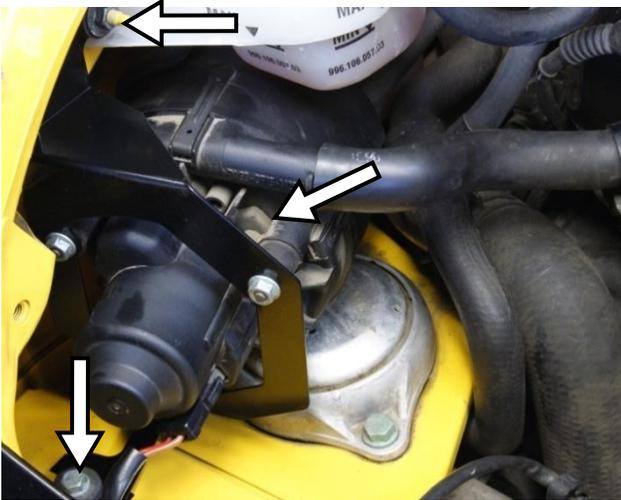

Figure 18 (996)
- Relocate smog pump (figure 18).